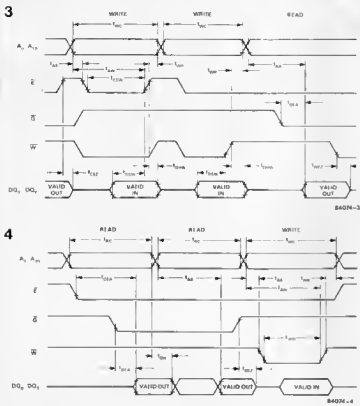

Figure 3, 4. These timing diagrams show the detailed operation of the MK48202.
Figure 3. The next best thing to through plating the holes is this insert. Using this it is possible to make very good double sided printed circuit boards without needing any special equipment.
- The timing diagrams of figures 3 and 4, as well as table 1, contain the detailed operating conditions of the 48202. The write-cycle time,  $t_{WC}$ , in the 48202 is equal to the access time (read-cycle time),  $t_{RC}$ . The device is available with a read/write cycle time of 150 ns, or 200 ns, or 250 ns, which is shown in a suffix to the type number: 15, 20, or 25. For instance, an MK48202-20 is the version